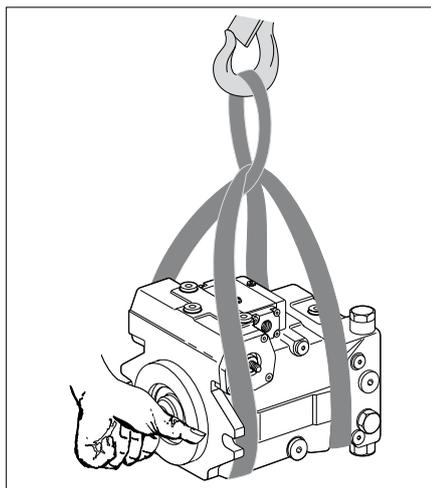

Fig. 18: Transport with lifting strap
- ▶ Place the lifting strap around the axial piston unit in such a way that it passes over neither the attachment parts (e.g. valves) nor such that the axial piston unit is hung from attachment parts (see Fig. 18).